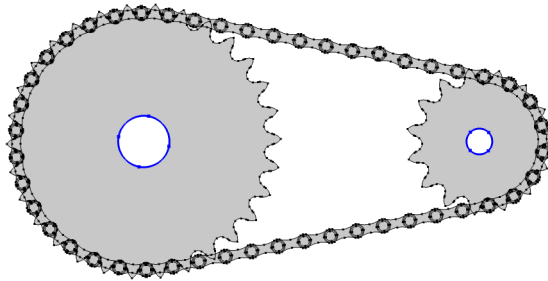

Figure 6: The Sprocket Inner Boundaries selection for creating attachments and hinge joints to mount the sprockets onto shafts.
- Sprocket Inner Boundaries: This boundary selection contains the inner surfaces of the sprockets, as shown in Figure 6. It is used for creating attachments and hinge joints for mounting the sprockets onto shafts.